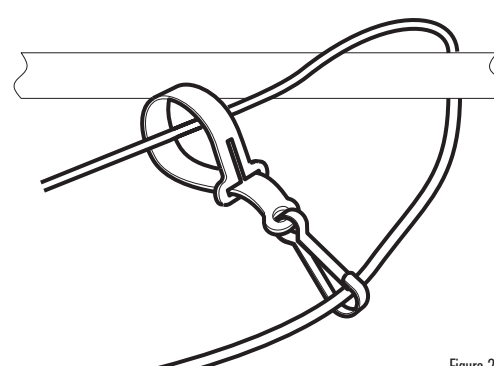

Figure 23
4. Secure the transducer cable in case of accidental release when the boat is moving, since a loose transducer can cause damage to itself, your boat, or become tangled in the propeller. Attach the tie-down strap to the transducer cable around an immovable object such as a rail or fitting, as shown in Figure 23.